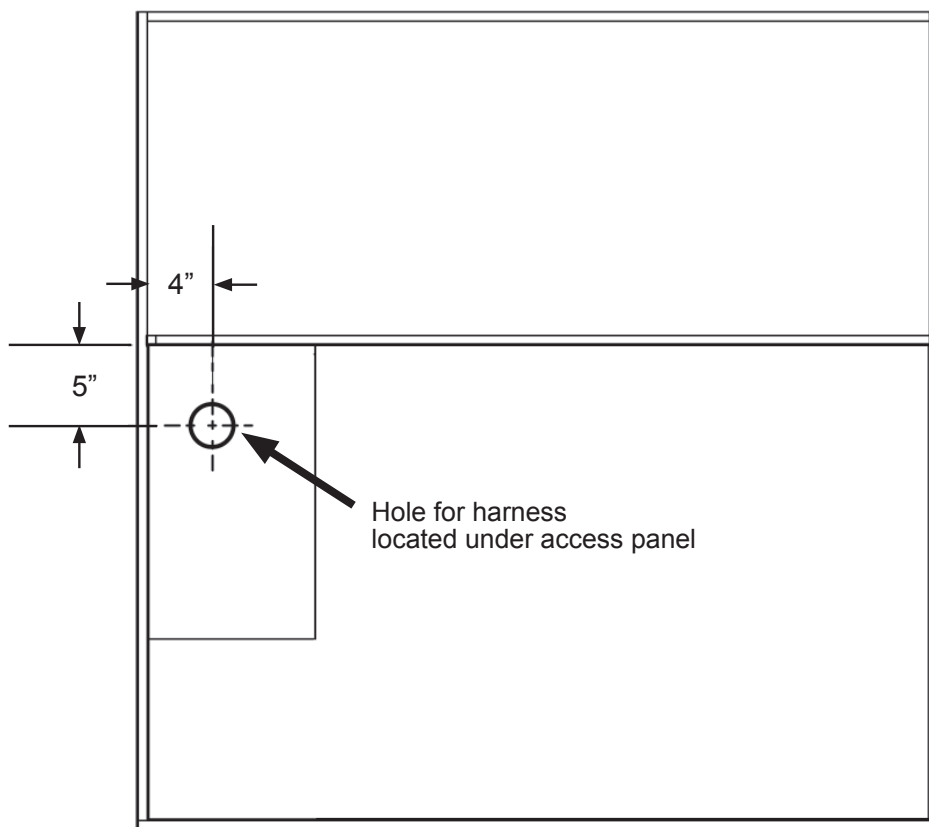

Figure 7
11. Open the sealer at the hole in the unit's floor where the underfloor harness passes through into the coach under the bed. The approximate location of the hole is shown in Figure 7. Ensure it is a large enough opening for the single wire and loom to pass through. Continue routing the 16 gauge jumper wire up through the floor under the bed base.